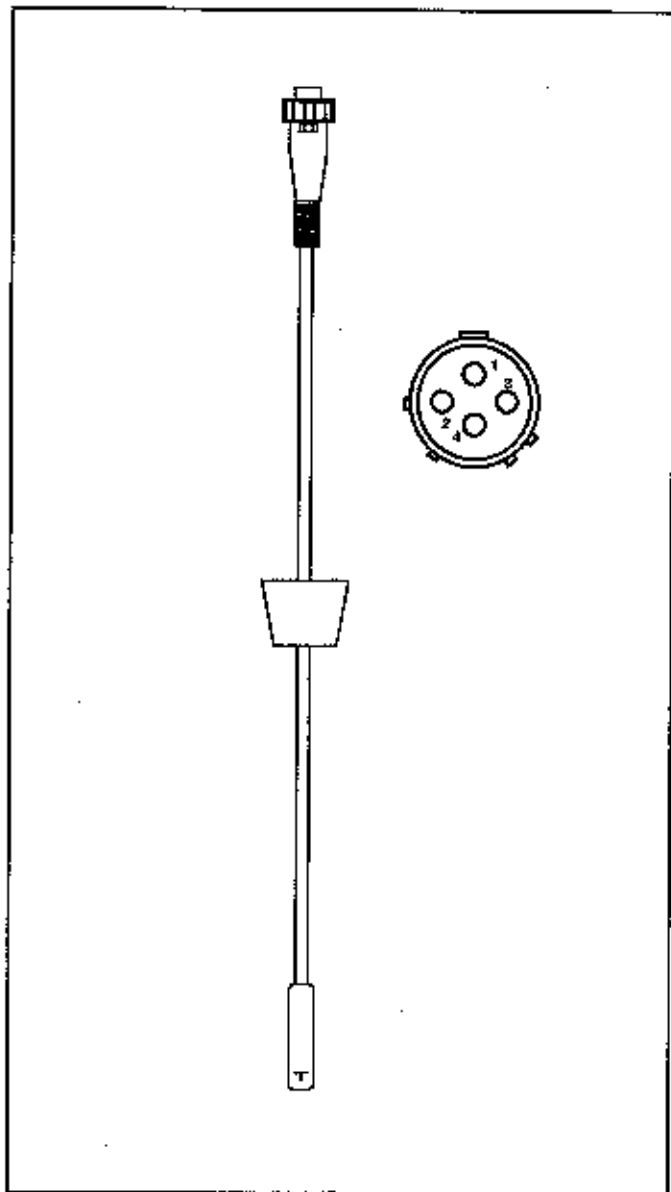

Figure 203
**Engine Temp. Probe (See Figure 203)**